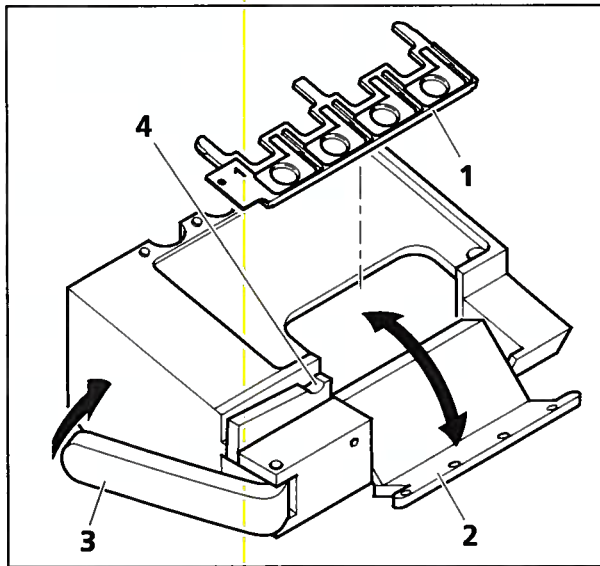
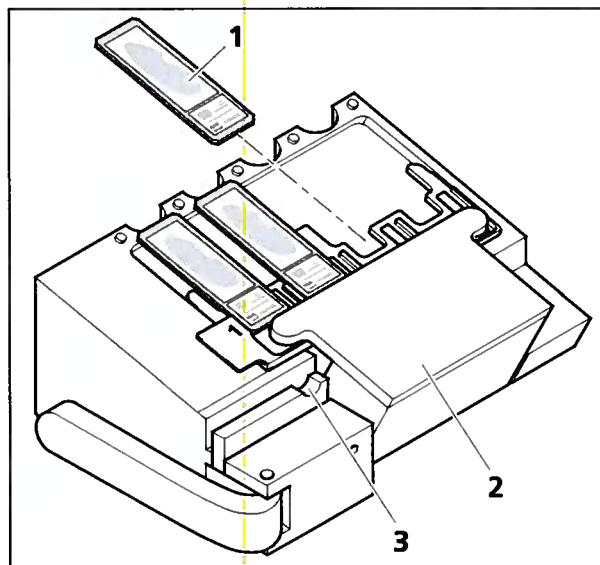

Fig. 4-7 Placing mounting frames into the loading aid
Fig. 4-8 Inserting slides into mounting frames
- Fold the fixing unit (Fig. 4-7/2) downwards. Unlock as necessary by pressing on the rocker (Fig. 4-7/4).
- Insert mounting frame (Fig. 4-7/1).
- Fold the fixing unit (Fig. 4-7/2) upwards until it lies on the mounting frame (Fig. 4-8/2).
- Push the lateral lever (Fig. 4-7/3) to the right so that the four positions of the mounting frame are open to receive the slides. The fixing unit is then locked.
- Remove the slides (Fig. 4-8/1) and/or insert new slides. When inserting make sure that the slides are pushed down completely to the stop in the mounting frame.
- Release the fixation by pressing the rocker (Fig. 4-8/3) (pushing against the lever on the side (Fig. 4-7/3) facilitates this); fixing unit (Fig. 4-8/2) will automatically fold downwards.